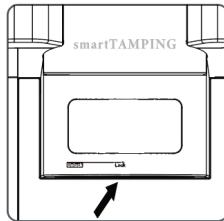

Figure 3
4.4 Clean the powder channel with a cleaning brush (see Figures 3 and 4). Do not reinstall the grinding wheel at this stage.